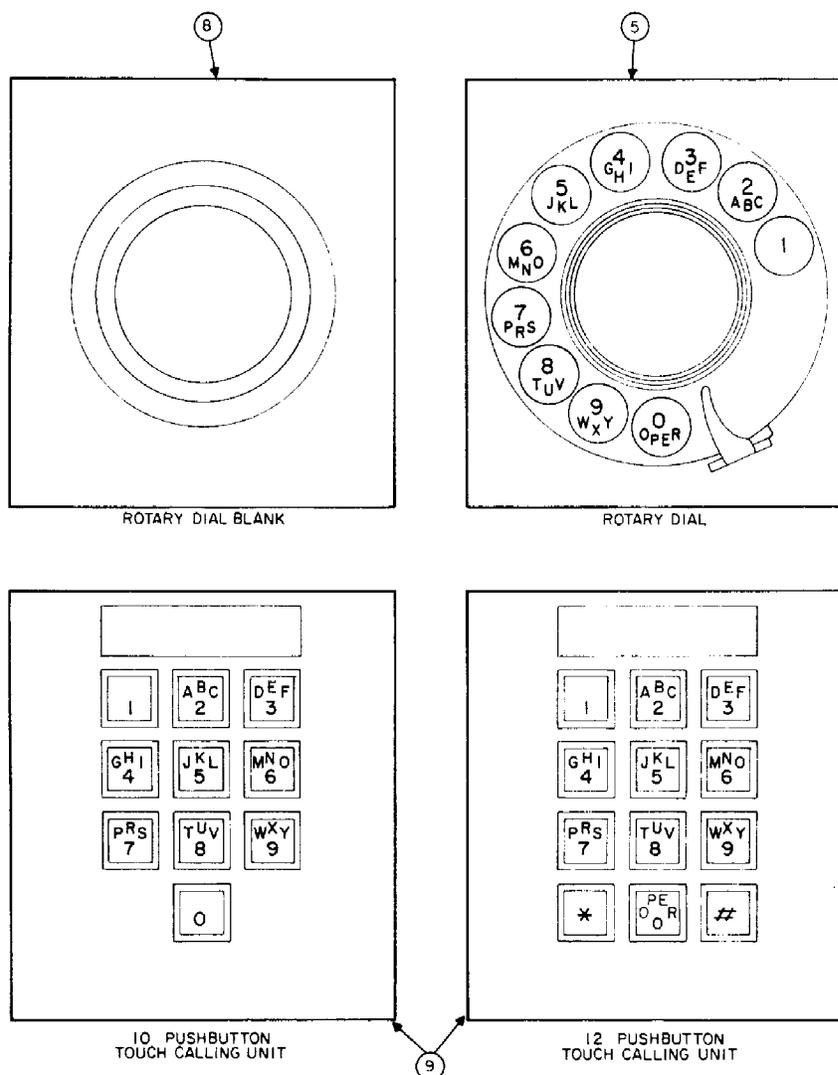

Figure 5. Rotary Dial and TCU Options.
- NOTES: 1. The item numbers in Table 2 refer to the numbers shown in Figure 5.
- NOTES: 1. The item numbers in Table 3 refer to the item numbers shown in Figure 5.